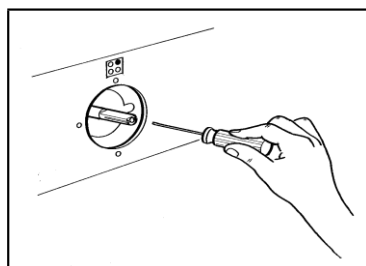
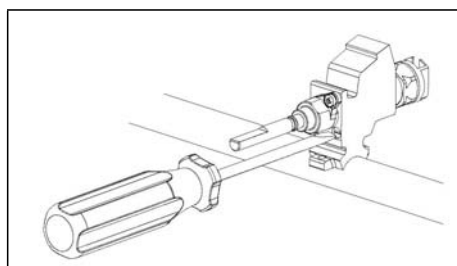

Fig. 14
Fig. 15
- 3) If the cooker is not equipped with safety valves on the surface burners, insert a small slotted screwdriver into the hole on the valve rod (Fig. 14) and turn the choke screw to the right or left until the burner flame is adjusted to minimum. If the cooker is equipped with safety valves, the choke valve is not located in the rod hole but on the valve body (Fig. 15).